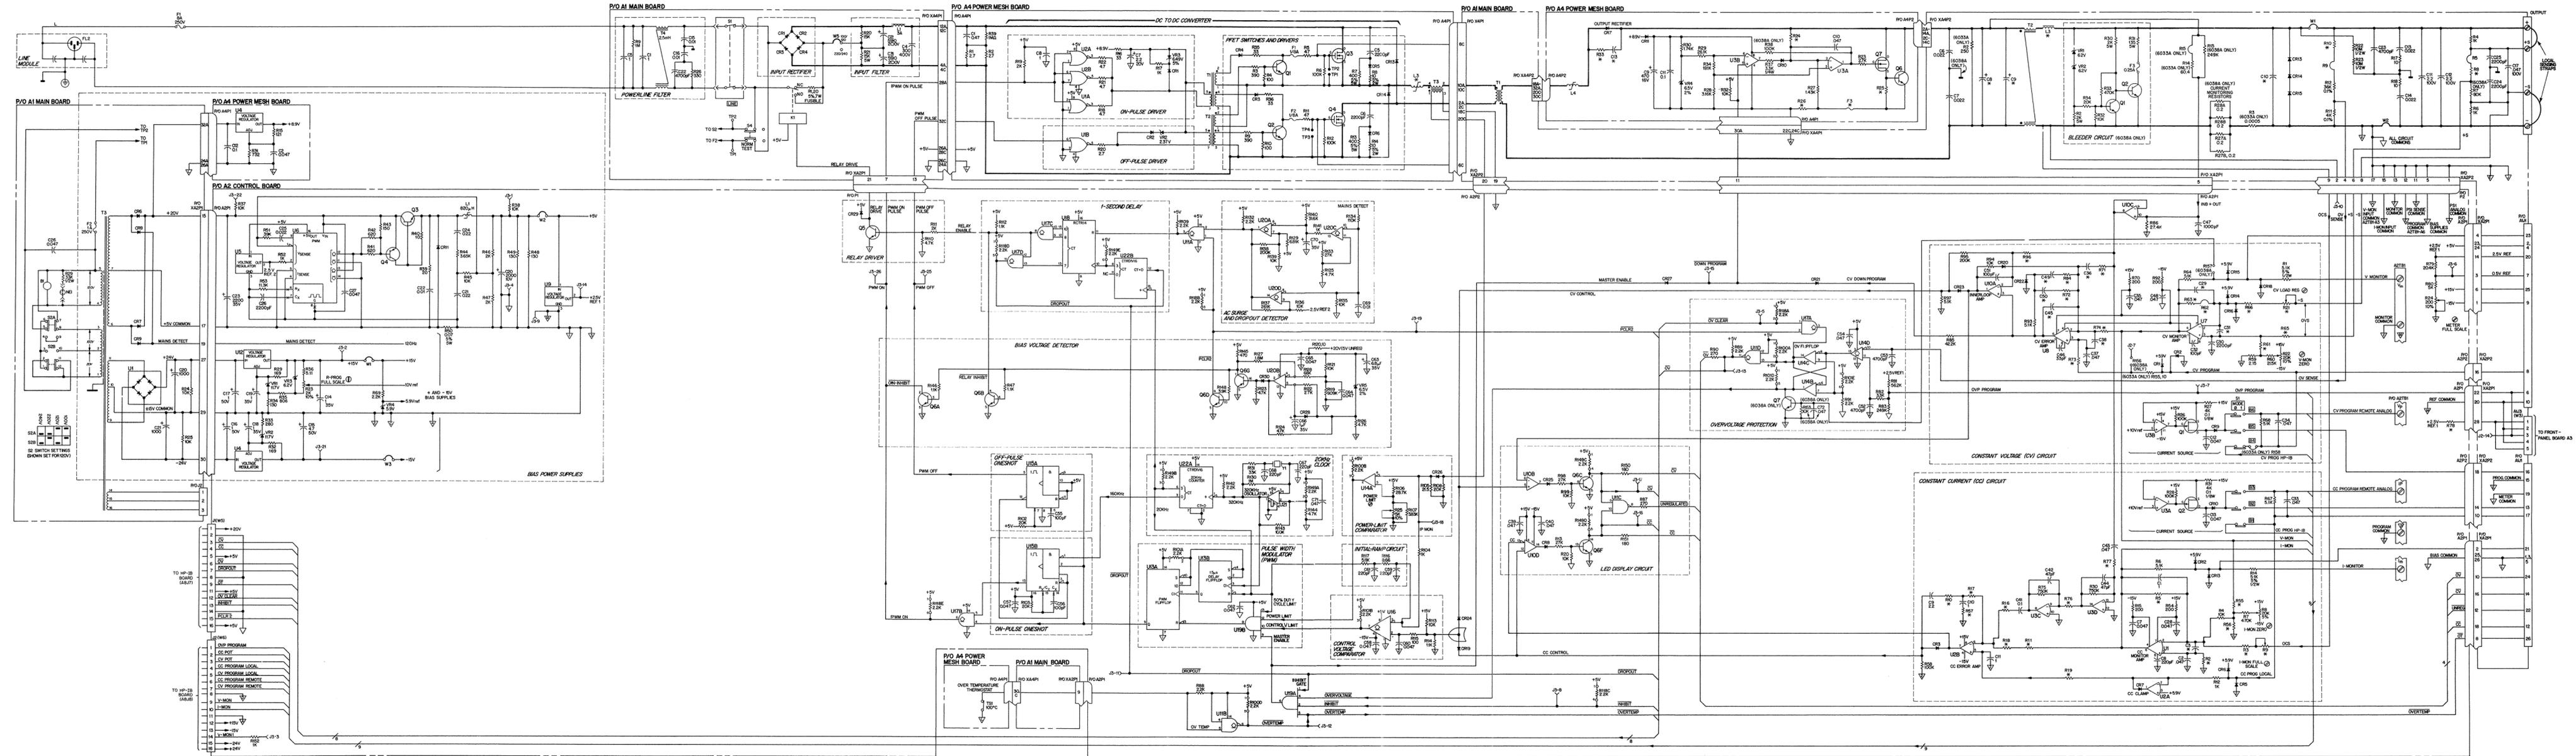

Figure 6-7. Power Mesh and Control Board Schematic Diagram
- Schematic diagrams (Figures 6-7 through 6-9).